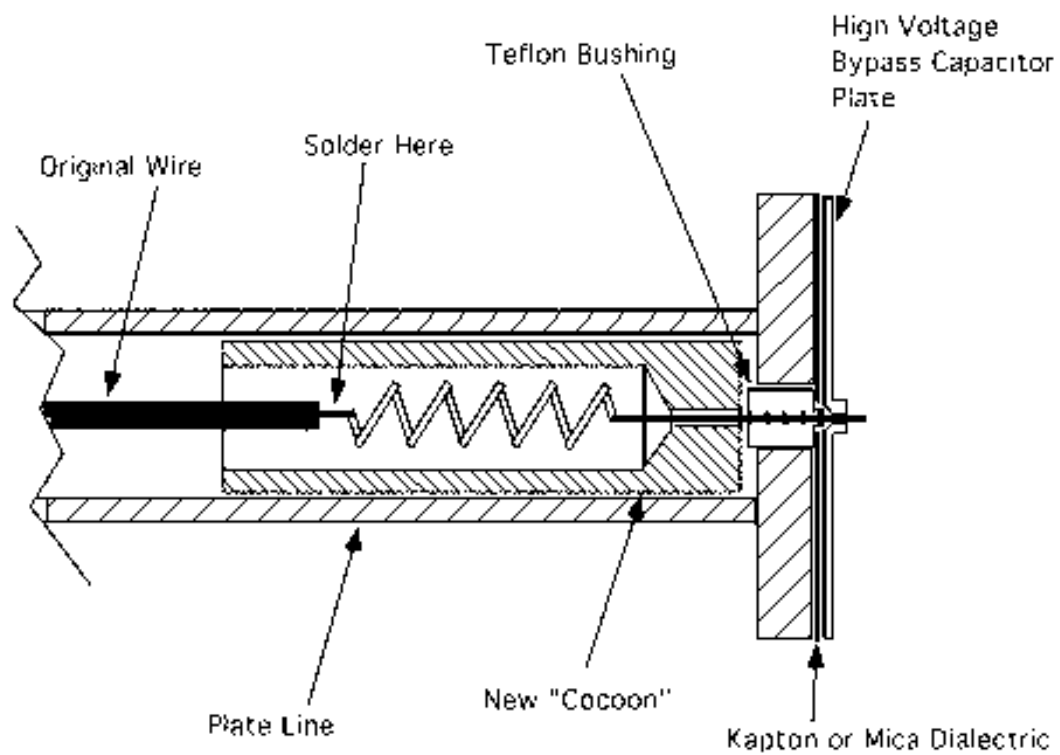

Figure 4. Plate Choke Insulator Installation
16. Slip the Teflon 'cocoon' over the choke all the way so the bare wire from the long lead of the choke sticks out through the end of the 'cocoon'. Insert the whole assembly, cocoon first, back into the plate line (see Figure 4.). Push it all the way in until you get to the point where the capacitor threads are ready to be screwed back into the front end of the plate cavity. Reverse the removal procedure and screw the plate line on to the capacitor. Once close to being tight, check to see that the two screw holes in the end of the plate line are parallel to bottom of the compartment (sight along the edge of the compartment). This takes some 'messaging' around until you get the capacitor tight at the same time the screw holes are in the right position. The final tightening is accomplished with a wrench on the capacitor. Undershooting the final position of the screw holes and then turning the capacitor in the last little bit with the wrench sometimes works.